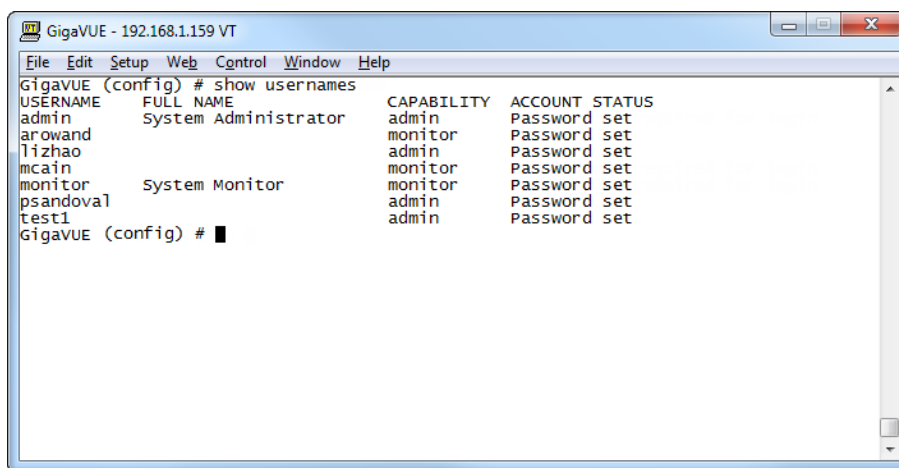

Figure 13 Reviewing the User List
2. Once you have configured these basic user accounts, use the **show usernames** command to review your settings. Figure 13 Reviewing the User List shows some sample **show usernames** output after several users have been added.